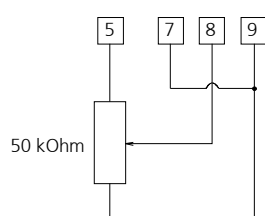

figure 23
2. Connect the potentiometer of 50 k $\Omega$  with the controller (see figure 23).